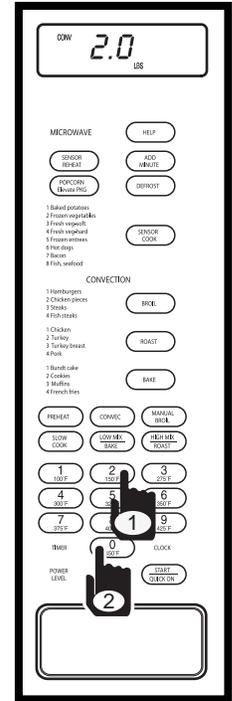

Figure 3-96.
3. Press the number 2 key and number 0 key, “2.0 - NO FOOD - IN OVEN - FOR - MEDIUM - PRESS - START - OR - FOR - DONE - MESS - OPTIONS - PRESS - POWER - LEVEL” will flash on the display. (See Figure 3-96)